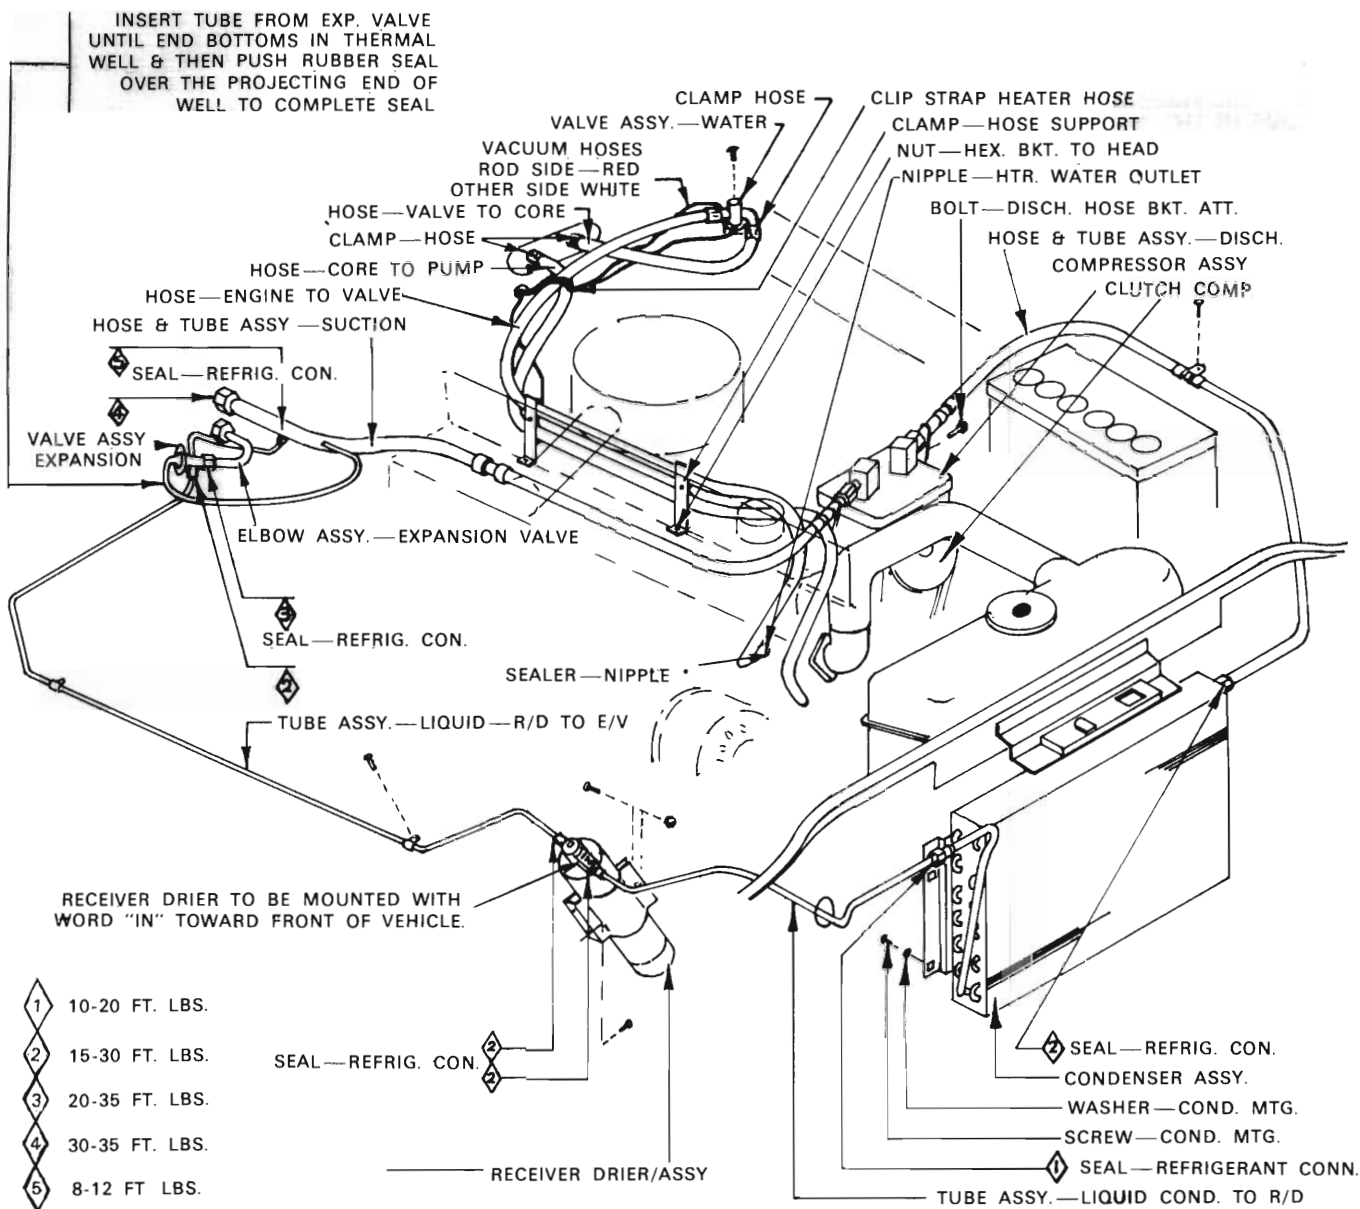

Fig. 24 - Air conditioning and heater plumbing. 6 cyl. engine
(9) Test the operation of the controls and adjust where required — refer Paragraph 6.
(10) Install electrical wires to resistor block, vacuum hoses to fresh air recirculating actuator (red stripe to rod side).
(11) Install defroster duct, tubing and glove box assembly.
(12) Install heater hoses (Figs. 24 and 25), fill cooling system, connect battery terminal.
(13) Start engine, operate until normal engine operating temperature is obtained and test operation of heater assembly.